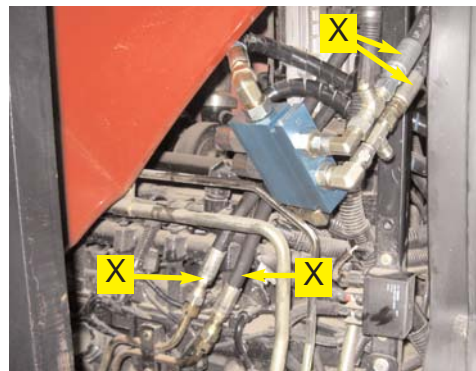

Figure 7a. Connected steering lines.
a. Connect the hydraulic steering hoses (**X**) from the steel steering lines to the run tee (**N**) on the **C1** and **C2** ports on the counter balance valve. (Figure 7a.)